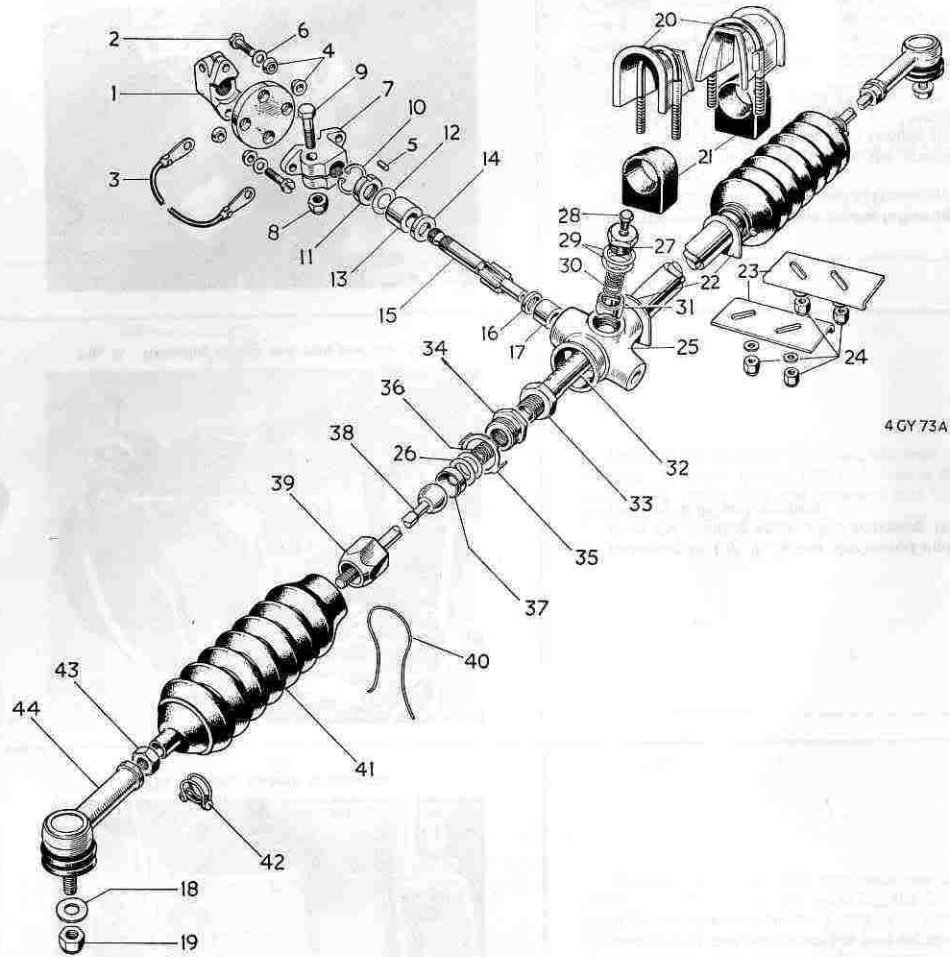

Fig. 4. Exploded steering unit
Key to Fig. 4
3. Referring to Fig. 4, remove in the following order, items (24), (23), (20) and (21).
Steering Unit (Fig. 4)**Dismantle**